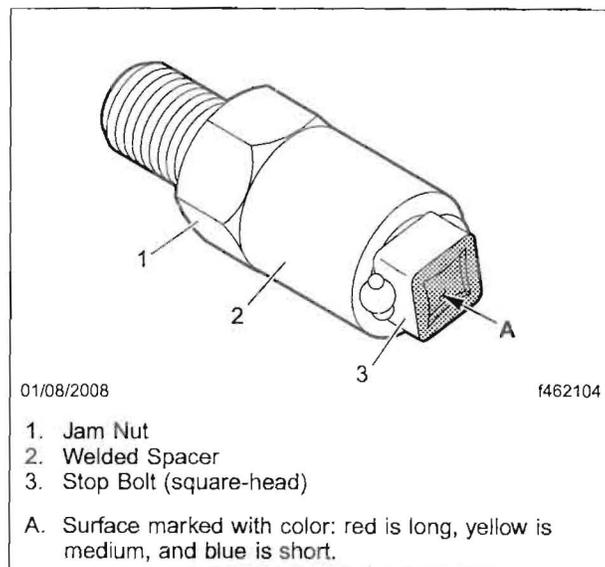

Fig. 5, New Axle-Stop Bolt
17. If not already done, hand-tighten the jam nut against the welded spacer on each stop bolt. See **Fig. 5**.